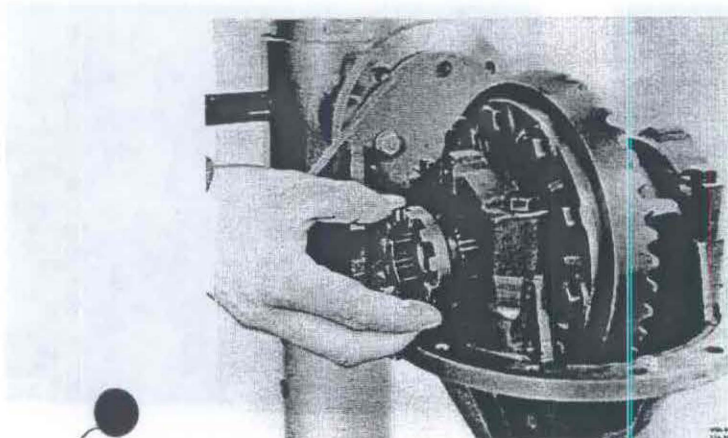

Fig. 46-74. Fitting the flange sleeve
20. Fit the flange with counterhold 2837. Press on the flange with 1845, Fig. 46-74.
- Fit the flange for the differential lock, Fig. 46-74. Fit the washer and the lock ring. Remove the carrier from the fixture.